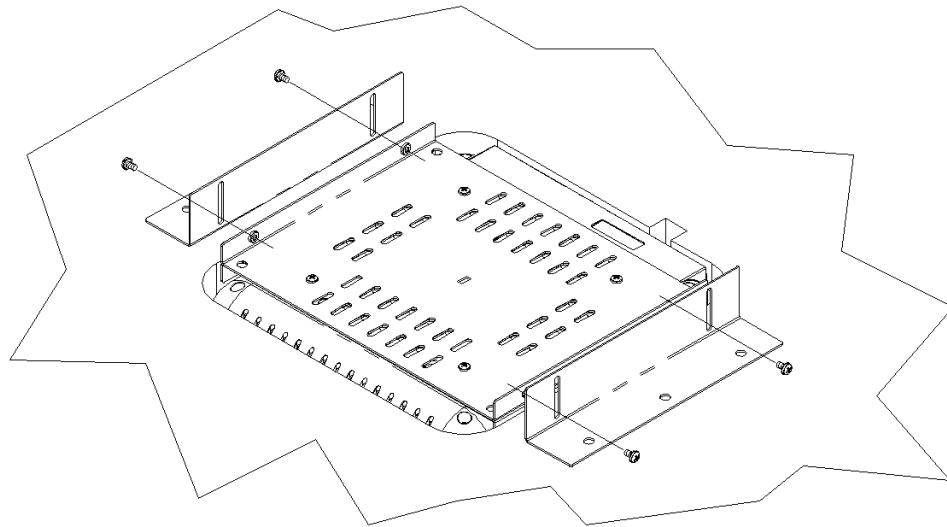

Figure 9: Side Mounting Bracket Installation
4. Turn BSAP-1700 unit over and place ceiling tile over the unit as shown in Figure 9. The Trim Plates will aid in tiles correct position. Next attach the Side Mounting Brackets to the Rear Mounting Plate using the 6-32 screws with the external tooth washers attached.